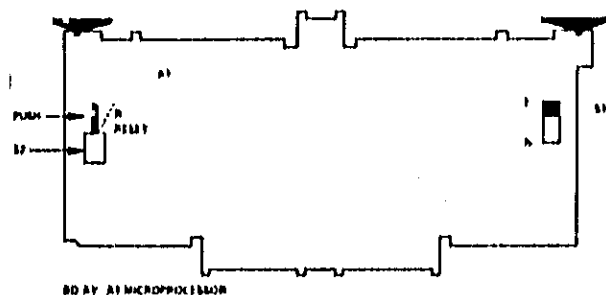

Figure 8-1. Location of Internal Switches
- Set AIS1 to T (Figure 8-1).
- Press the zero key (0) on the front panel - all indicators should light for approx 3 s.